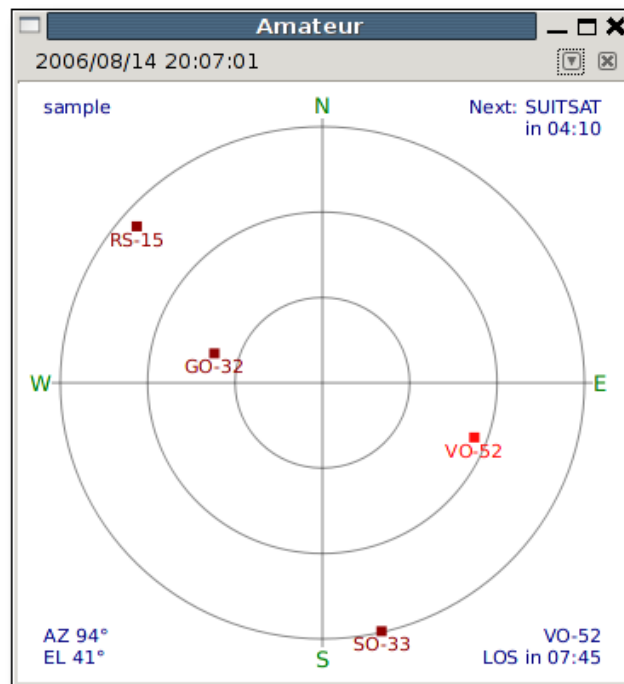

Figure 4.3: The polar view.
The polar view (also called radar view) shows the satellites within range on a polar graph. The polar axis represents the azimuth of the satellites starting at North and turning towards East, while the radial axis represents to the elevation of the satellites with 90° at the centre, corresponding to looking straight up in the sky. Thus, the polar view is a projection of the sky as seen from the ground station with the centre of the graph corresponding to looking straight overhead. Figure 4.3 shows a screen capture of the polar view in Gpredict as it looks using the default settings.
The satellites that are plotted on the polar view are selectable. If you left click on a satellite it becomes selected (changes colour) and the remaining in-range time for the selected satellite will be displayed in the lower right corner of the polar view. The selected satellite on figure 4.3 is VO-52 and it will get out of range (i.e. go below the horizon) in 7 minutes and 45 seconds.
- **QTH Info:** Checking this box will show the name of the ground station in the upper left corner of the polar view. The polar view on figure 4.3 shows *sample*, since this is the name of the default ground station.
- **Next Event:** Checking this box will show in the upper right corner which satellite will come up next as when it will come up. The time is shown as a countdown to the event. Figure 4.3 shows that the next satellite will be SUITSAT and that it will come up in 4 minutes and 10 seconds. Please note that the countdown is not necessarily updated in real-time. Actually, it is only updated every time the polar view is refreshed, see description of refresh rates in section 2.3.3 - Module Properties.